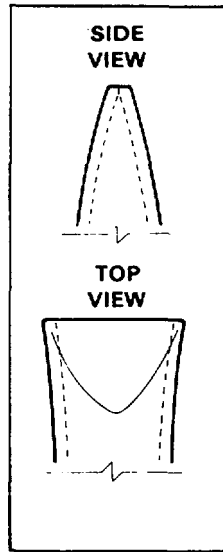

Figure 14-15. Approximate Shape of Lacing Ends
3. Lacing ends must be flattened by pounding into the approximate shape shown in Figure 14-15.